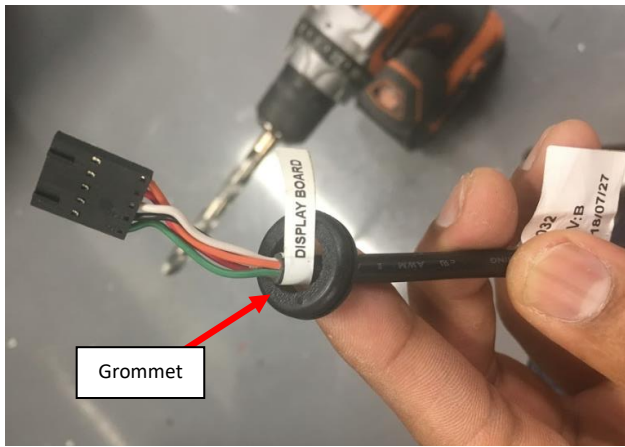

Figure 104a: UI Harness inserted into the Grommet.
- i. Insert the supplied Grommet for 5/8-inch hole over the connector on the UI Harness that is labeled Display Board. **See Figure 104a.**